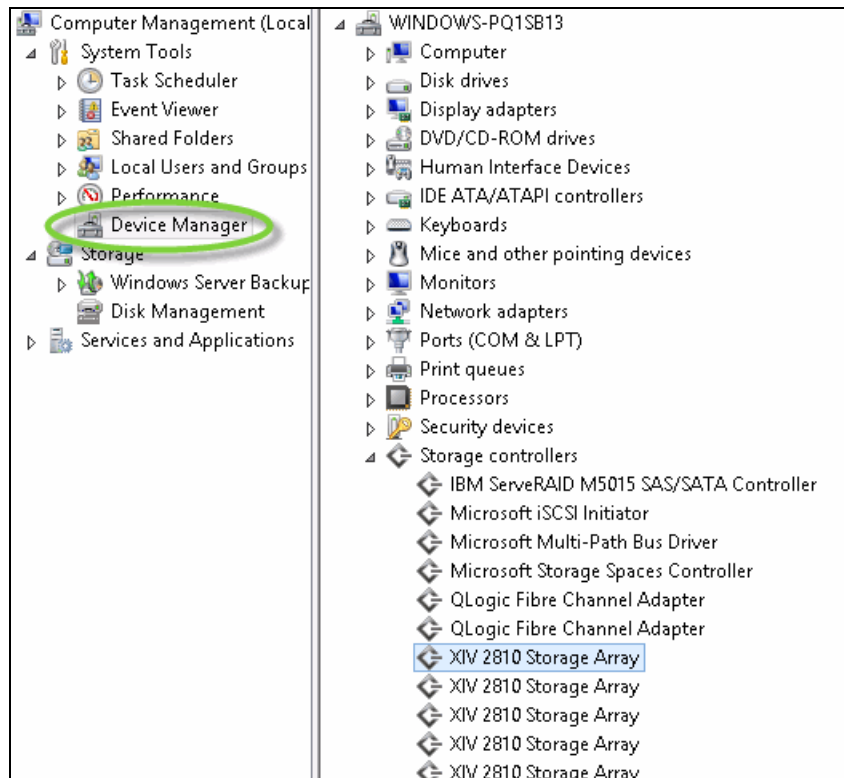

Figure 3-23 Windows Device Manager with IBM Storage disks connected through iSCSI
14. To verify an assigned disk, open the Windows Device Manager, which shows all XIV, FlashSystem A9000, and A9000R disks connected via iSCSI under Storage controllers (see Figure 3-23).